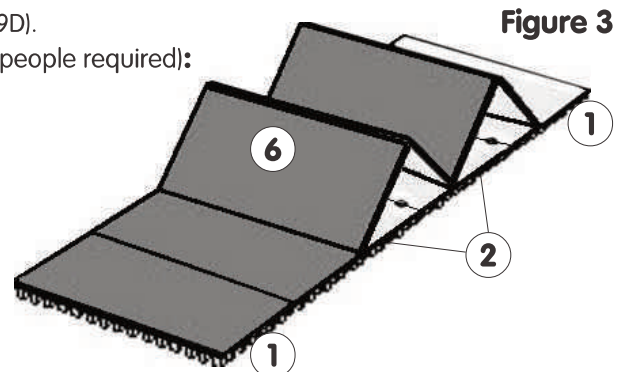

Figure 3
- Unfold the "Concertina" foam track (6) (white side in view) in line with the floor (as shown in Fig. 3).
- Unroll the carpet (7) in line with the Foam track (6).